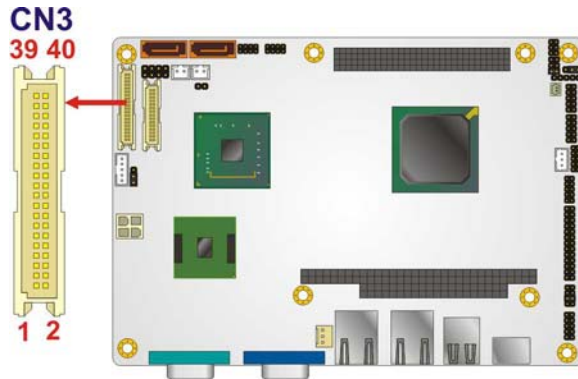

Figure 3-21: LCD TTL Connector Pinout Locations
- CN Location:** See **Figure 3-21**